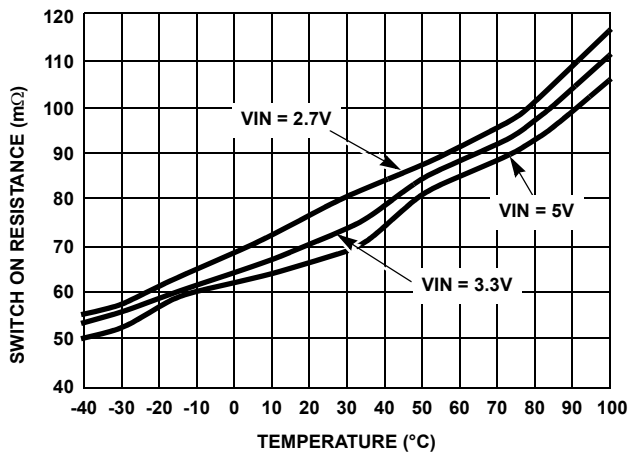

FIGURE 2. SWITCH ON RESISTANCE AT 0.4A
The ISL6118 is a fully independent dual channel overcurrent (OC) fault protection IC for the +2.5V to +5.5V environment. Each ISL6118 incorporates in a single 8-lead SOIC package two 80mW N-channel MOSFET power switches for power control. See Figure 2 for integrated FET on resistance curves. Independent enabling inputs and fault reporting outputs compatible with 3V and 5V logic allow for external control and monitoring. This device features internal current monitoring, accurate current limiting, integrated power switches and current limited timed delay to latch-off for system protection.